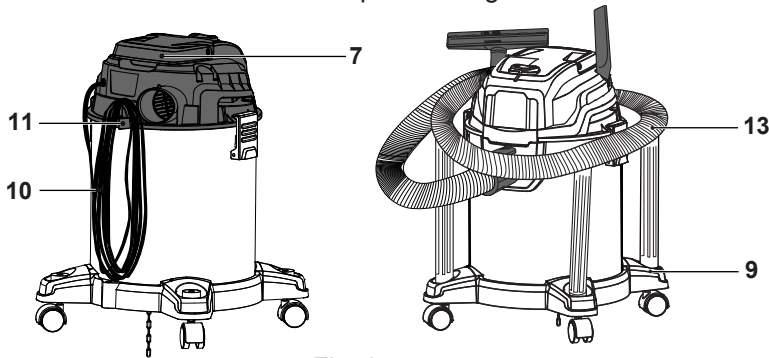

Fig. 24
- > Disconnect the respective attachment (15, 16), hose (13) and extension tube(s) (14) if necessary.
- > To wash out the tank, use clean water instead of detergent. Do not immerse the tank (3) in water.
- > Once dry, we recommend putting the attachments onto the attachment storage (9) and storing the power cord (10) on the hook (11) of the motor unit (7) (Fig. 24).
- > We recommend putting the attachments onto the attachment storage (9) and storing the power cord (10) on the hook (11) of the motor unit (7) (Fig. 24).